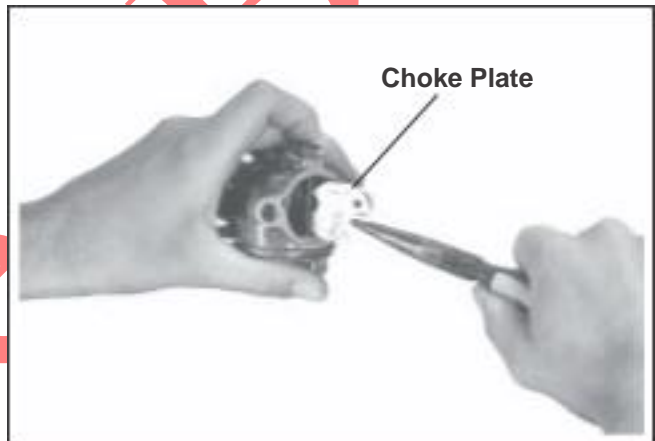

Figure 5-11. Removing Choke Plate.
2. Grasp the choke plate with a pliers. Pull it out of the slot in the choke shaft. See Figure 5-11.